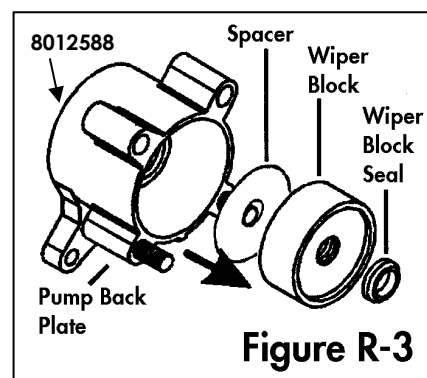

Figure R-3
6. Remove the large O-ring (8012588) from the groove on the side of the pump back plate that faces the pump body. Remove the wiper block and spacer (if present) from the pump back plate. Use needle-nosed pliers to pull the old wiper block seal out of the wiper block. See **Figure R-3**. (Note: This seal is usually damaged during removal. Be sure you have a replacement on hand before removing it.)
5. Install a new wiper block seal into the wiper block. The seal must be pressed into a groove inside the bore in the middle of the wiper block with the narrower side of the seal facing outwards. Form the seal into an oval shape by squeezing it between your fingers and press one side of the seal into the groove in the wiper block. Once an edge of the seal is started into the groove, carefully work the rest of the seal into place. After the seal has been installed, slide the spacer (if present) and wiper block onto the piston shaft. The side of the wiper block from which the seal was installed should be facing outward. Refer to **Figure R-3**.